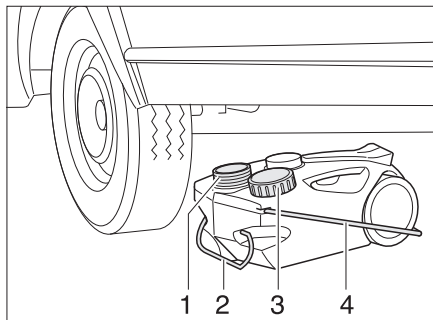

Fig. 154 Waste water tank, mobile
- Close the opening of the waste water tank (Bild 154,1) with the lid (Bild 154,3).
- Pull out the waste water tank at the handle (Bild 154,2).
- Swing up the carrying handle (Bild 154,4) and set the waste water tank up.